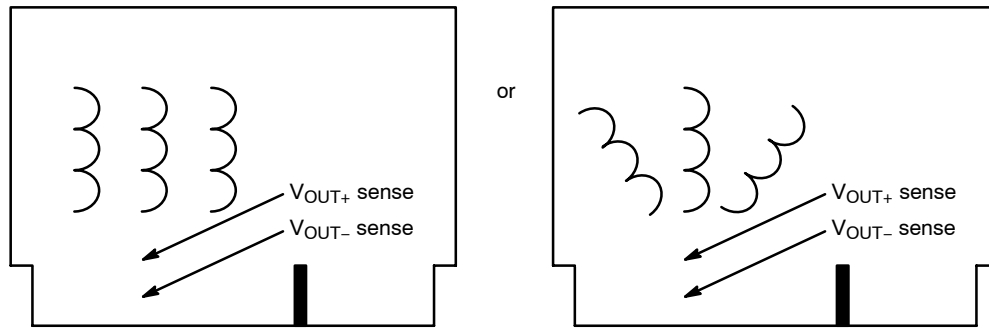

Figure 49.
2. Differential noise across the PWM comparator can be further reduced if the  $V_{OUT+}$  and  $V_{OUT-}$  sense lines going to  $CS_{REF}$  and GND are paralleled to minimize loop area.  $V_{OUT+}$  ripple information provided to the PWM comparator via the  $CS_{REF}$  pin needs to be symmetric for all three phases or poor current sharing between phases will occur. This can be accomplished by placing the  $V_{OUT+}$  and  $V_{OUT-}$  sense locations symmetrically with respect to the three output inductors. See Figure 49.
3. Frequency jitter could occur if the  $R_{OSC}$  pin (2) and OCSET pin (1) components are not properly located. Most layouts will have two resistors in series from  $R_{OSC}$  to GND. Keep these two components as close as possible to the IC and ensure a short ground connection to the IC GND. Provision for a small cap (1000 pF or less) from  $R_{OSC}$  to GND can be placed although this is rarely needed. If the  $R_{OSC}$  capacitor value is too large, the  $R_{OSC}$  voltage reference will oscillate.
4. The  $V_{CC}$  (23) bypass capacitor (0.1  $\mu$ F or greater) should be located as close as possible to the IC. This capacitor's connection to GND must be as short as possible. The most effective way to implement this tight component placement is to via the GATE1, 2, 3 and DRVON runs to internal layers right at the IC pins.